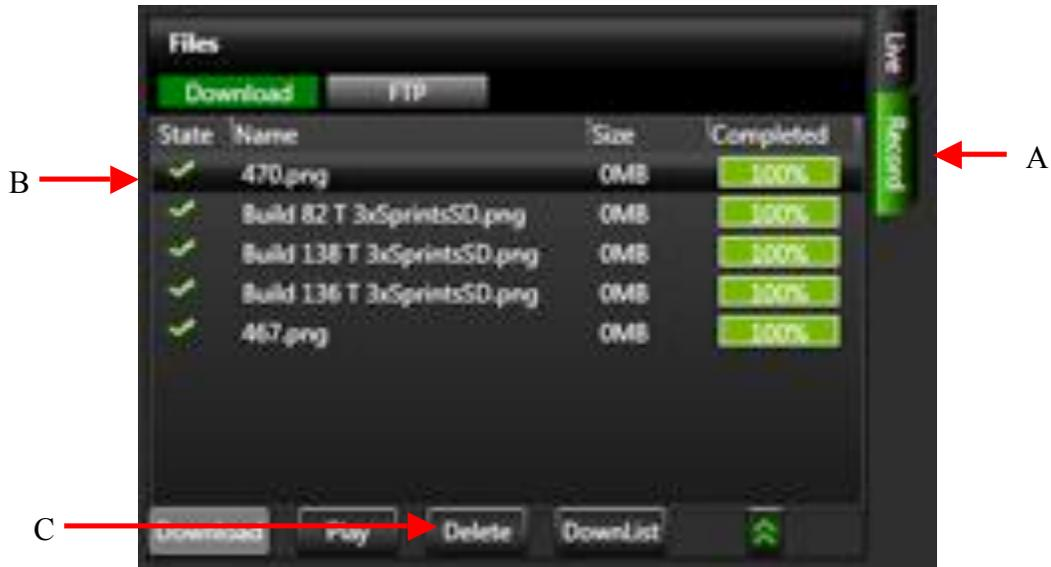

Figure 11
1. On the TVUPack Receiver screen, select the Record tab **(A)** (Figure 11)